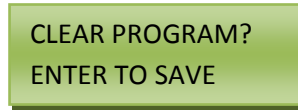

Figure 13.1
- a. This Action allows for the Time-Keeper® programming to be wiped clean for a fresh start. To Clear all Programming, press the ENTER button. See Figure 13.1 for a visual example.